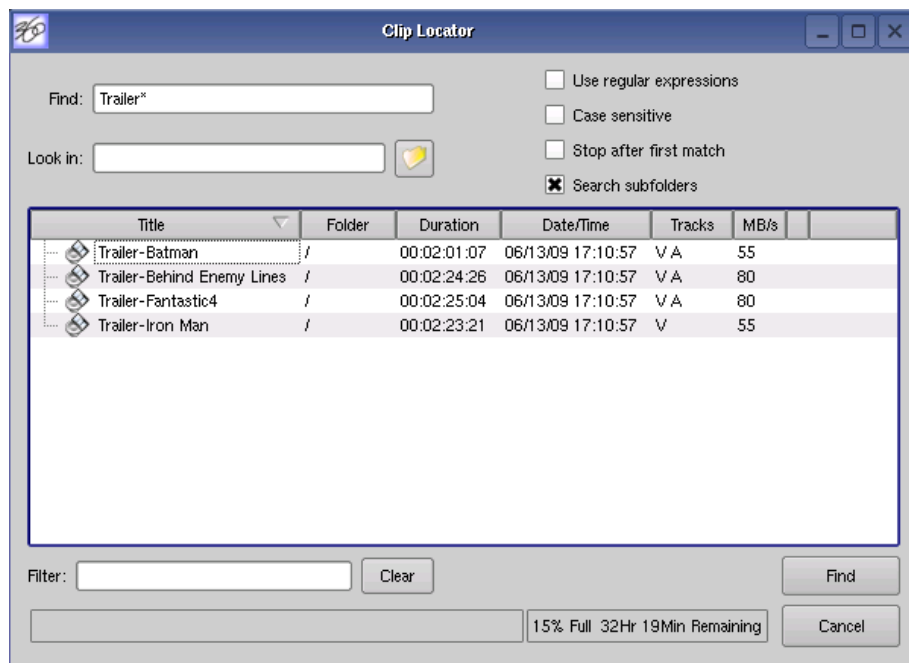

Figure 21 - Clip Locator
1. Click **SHOW > FIND CLIPS**. The Clip Locator screen of **Figure 21** appears.